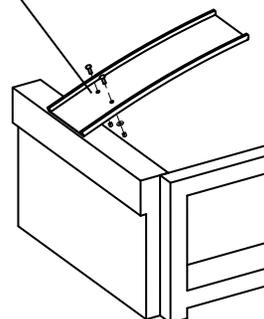

Figure 13-4
4) **Figure 13-4.** Drill two 1/2" diameter holes through trough and bracket.
5) **Figure 13-4.** Attach with 3/8-16 x 1-1/4" carriage bolt, 3/8 flat washer, and 3/8-16 nylon hex nut.